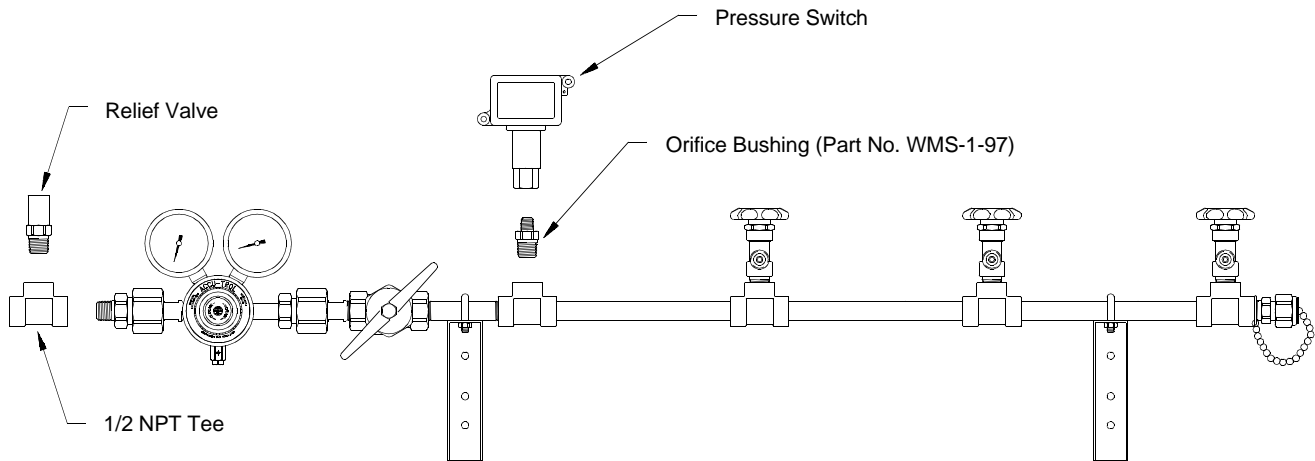

FIGURE 8
1. A 1/2" NPT male union is supplied with the control and is located at the outlet of the pressure regulator. Connect this union to the pipeline system. The union provided permits removal of the manifold for service. (Figure 8)
1. Install an orifice bushing into the 1/2 NPT tee (Figure 8).
2. Install the pressure switch onto the orifice bushing (Figure 8).
A relief valve may be installed into the manifold outlet as shown in Figure 8.
1. Install a 1/4 NPT female tee onto the manifold outlet using Teflon tape (Figure 8).
2. Install the relief valve into the tee (Figure 8).